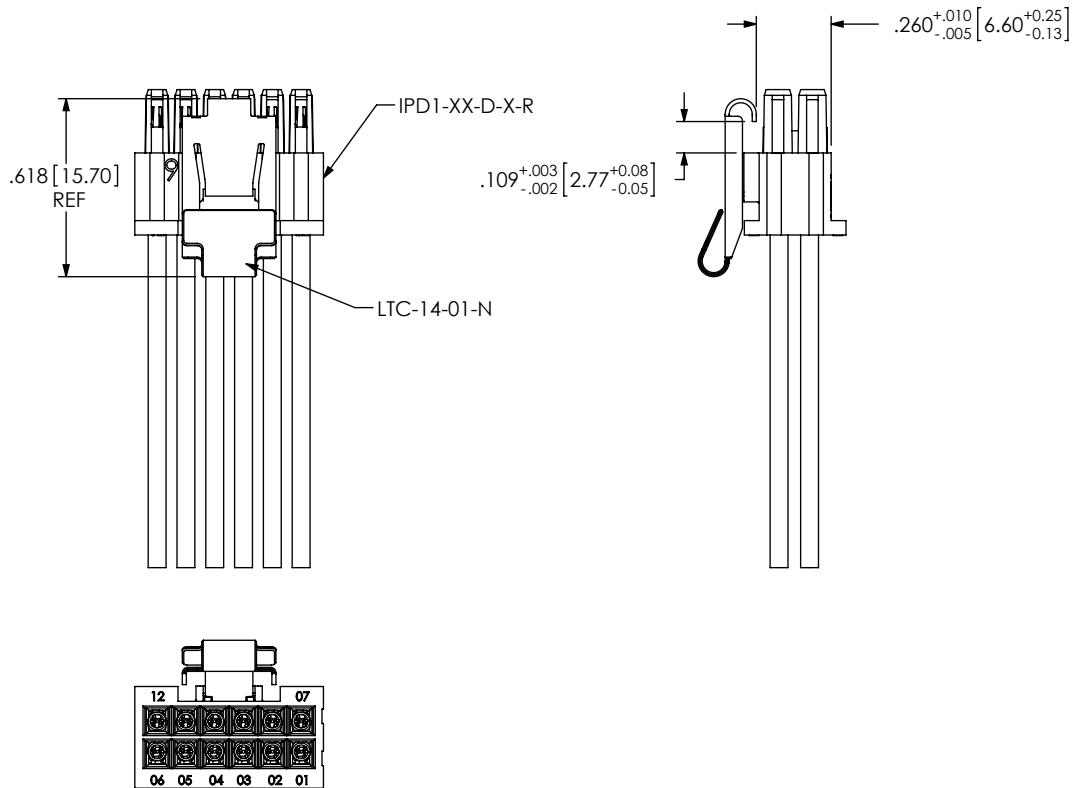

FIG 6
- G: GUIDE POST (USE IPD1-XX-D-GP) (SEE FIG 6, SHEET 3) (NOT AVAILABLE WITH -LDS, -LUX, -P, -K OPTIONS)